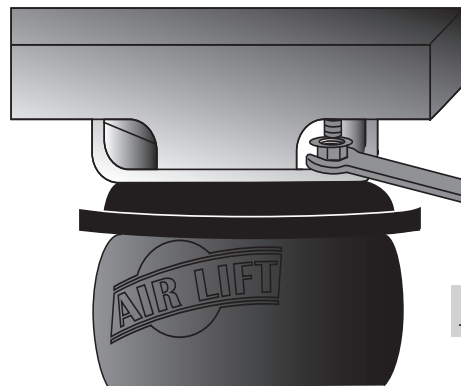

fig. 13
4. Put 3/8" x 7/8" hex head bolts (I) with flat washers (M) down through the existing jounce bumper hole from the inside of the frame, and attach to the whiz nuts (Fig. 13). Leave loose for adjustment later.